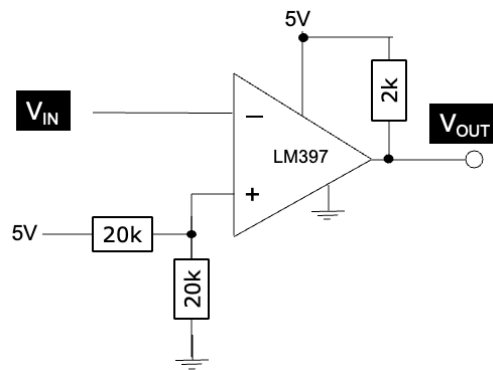

Figure 2.1
b) *Figure 2.1* shows the LM397 comparator being driven by an input voltage V_{IN} , where